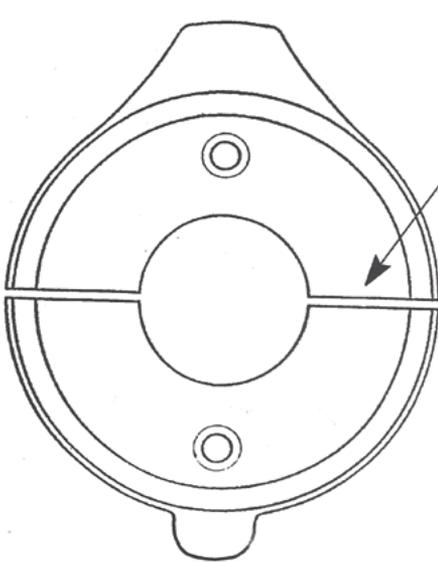

Figure 12
- A. Cut the ring anode (Figure 12) in two halves, avoiding to make the cut through the screw holes.
- D. Assemble the two halves (Figure 12) fixing them on the sail-drive leg by means of standard screw.